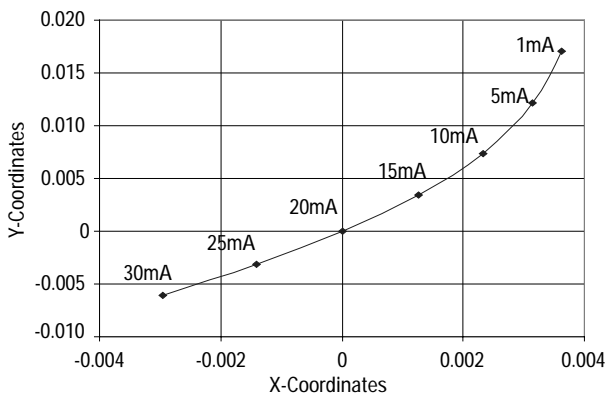

Figure 5. Chromaticity Coordinate Change over Forward Current
1. Derate linearly as shown in Figure 5.